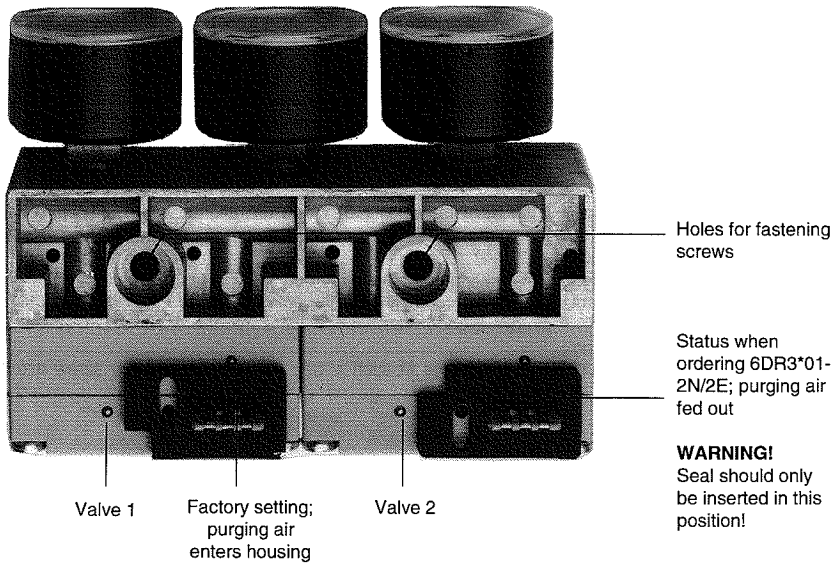

Figure 6 Settings for purging air
- Detach the complete valve manifold from the housing by loosening both fastening screws (Figure 6).
- Rotate the seal on valve number 1 through 180° (see the position of the seal on valve 2 in Figure 6).